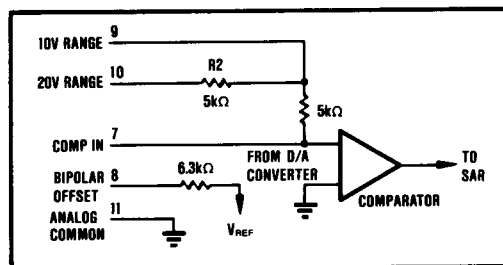
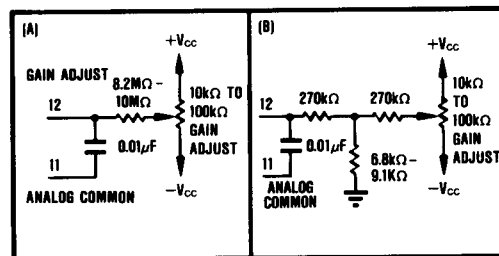

FIGURE 3. ADC804 Input Scaling Circuit.
FIGURE 6. Two Methods of Connecting Optional Gain Adjust.
input range as indicated by Table II. The input circuit architecture is illustrated in Figure 3. Use of external padding resistors to modify the factory-set input ranges (such as addition of a small external input resistor to change the 10V range to a 10.24V range) will require matching of the external fixed resistor values to individual devices, due to the large tolerance of the internal input resistors. Alternatively, the gain range of the converter may be easily increased a small amount by use of a low temperature coefficient potentiometer in series with the analog input signal or by decreasing the value of the gain adjust series resistor in Figure 6.
**GAIN**—Connect the gain adjust potentiometer as shown in Figure 6. Set the input voltage to the nominal plus full-scale value minus  $3/2\text{LSB}$ . Once again referring to Table 1, this value is  $+10\text{V} - 7.32\text{mV}$  or  $+9.99268\text{V}$  for the  $-10\text{V}$  to  $+10\text{V}$  range. Adjust the gain potentiometer until the output code is alternating between  $000_{\text{H}}$  and  $001_{\text{H}}$  with an approximate 50% duty cycle. As in the case of offset adjustment, this procedure sets the converter end-point transition to a precisely known value.